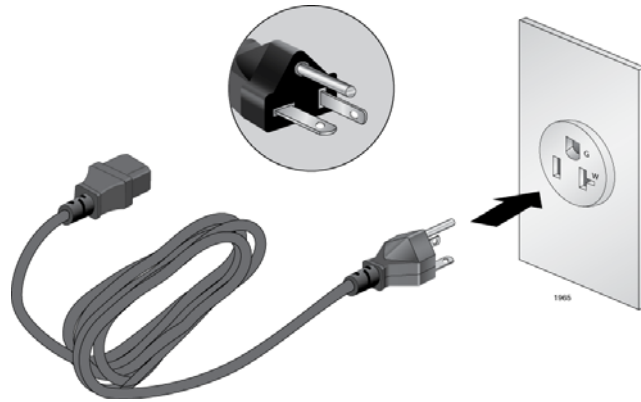

Figure 32. 100 - 125 VAC 125 V NEMA 5-20 Plug and Receptacle
- ☐ The power cords provided with the AT-SBxPWRSYS1 and AT-SBxPWRPOE1 Power Supplies for 100-125 VAC installations have 20 Amp, 125 V NEMA 5-20P plugs. The plug is only compatible with a NEMA 5-20R receptacle. See Figure 32 on page 87.